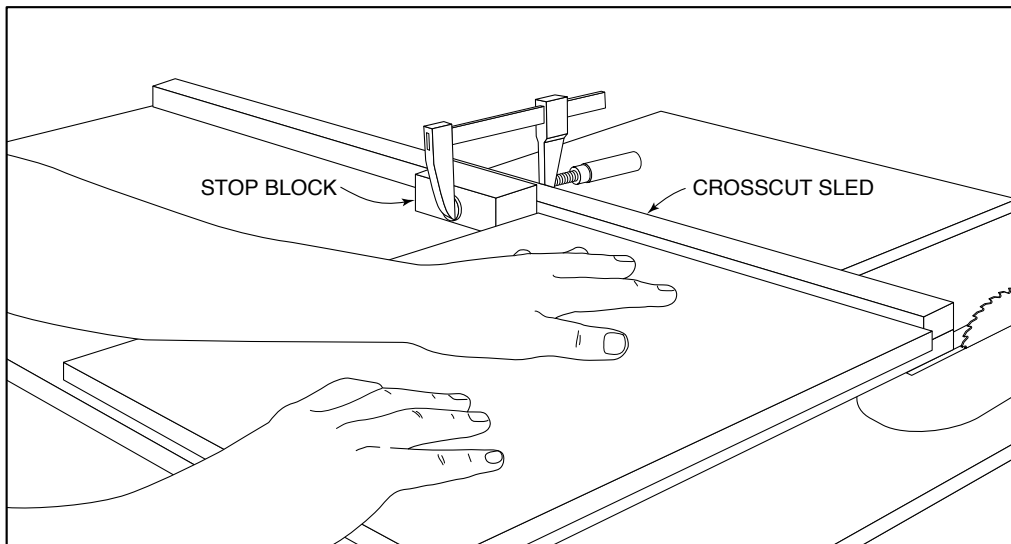

FIG 3. USE THESE DIMENSIONS TO LAY OUT THE END PANELS. THEY WILL GIVE YOU THE PRECISE ANGLES FOR THE FRONT UPPER AND LOWER FACES.
5. To lay out the front angles of the sides, see Fig. 3. Start by measuring up 7 7/8" from the bottom and make a mark with a pencil on the front edge. Measure 11 1/4" along the top edge and make a mark. Measure 11" along the bottom edge and make a mark. With a straight edge, draw lines that connect those marks with the mark at 7 7/8" from the bottom.
10. To lay out the hand holes in the sides, use the dimensions shown in Figs. 3 and 5. You will be using a 1 1/4" spade or Forstner bit to drill the ends of the holes, so find and mark the center of each hole and do the drilling.